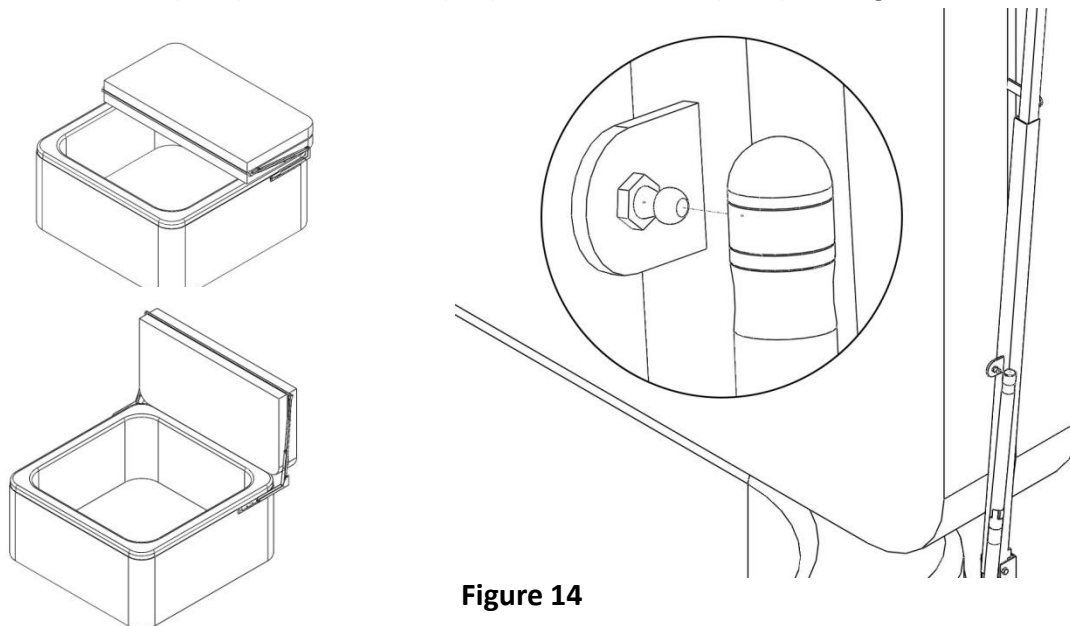

Figure 14
14. Fold back the spa cover onto itself, then manually lift the Cover Valet and spa cover to the upright position. You will need at least one person to help hold the cover. With the cover upright, attach the top end of the Regular Gas Shock (cvRS) to the Ball Stud (cvB) on the Pivot Arm (cvCC). See Fig 14.